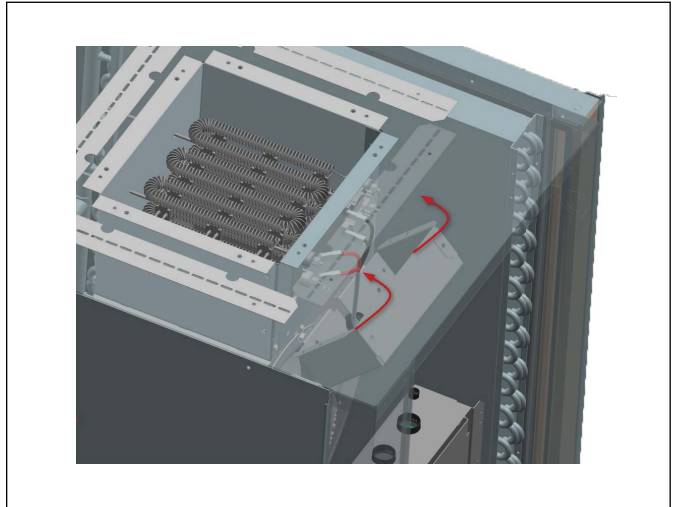

Figure 26
9. After the heating elements are installed, move the element cover into position (figure 26).